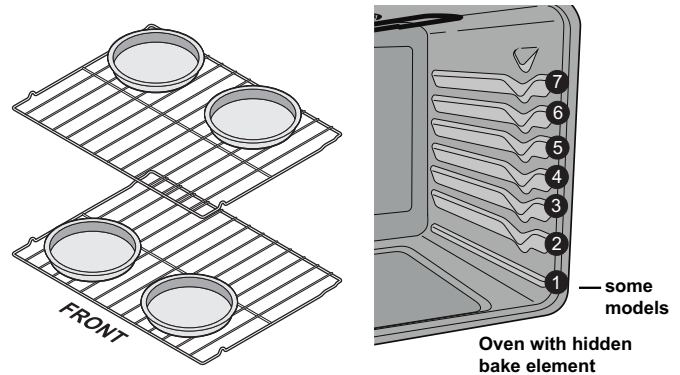

Figure 16: Pan spacing and oven rack positions
- When using 2 oven racks place racks in positions 3 and 5 for and position cookware as shown in Figure 16.